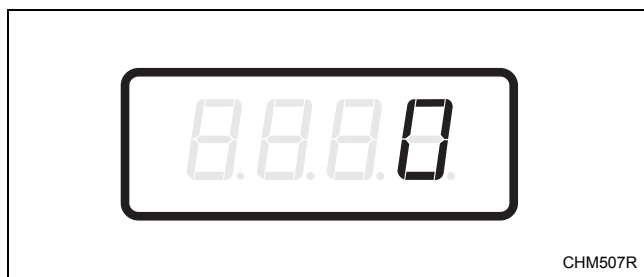

Figure 17
4. When “AtS6” appears in the display, press the START (enter) keypad. There are five digits in the Perm Press Cold Vend Price. The fifth digit will appear in the display and will flash one (1) second on, one (1) second off. Refer to *Figure 17*.